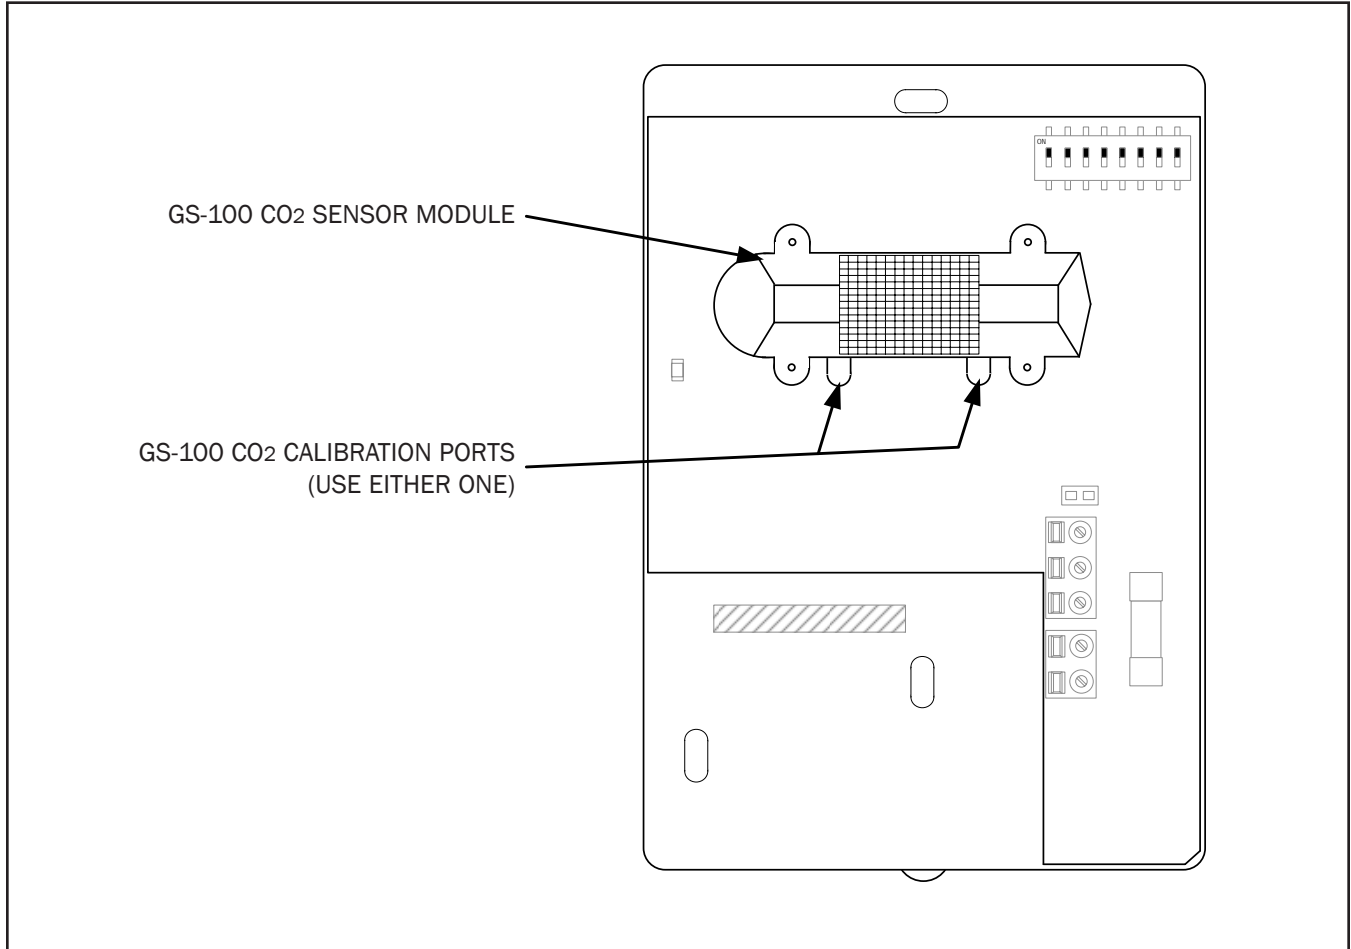

Figure 9. GS-100 CO₂ Calibration Ports
3. Remove the port covers from the GS-100 CO₂ calibration ports (Figure 9) and attach suitable tubing from the reference gas regulator to either port.